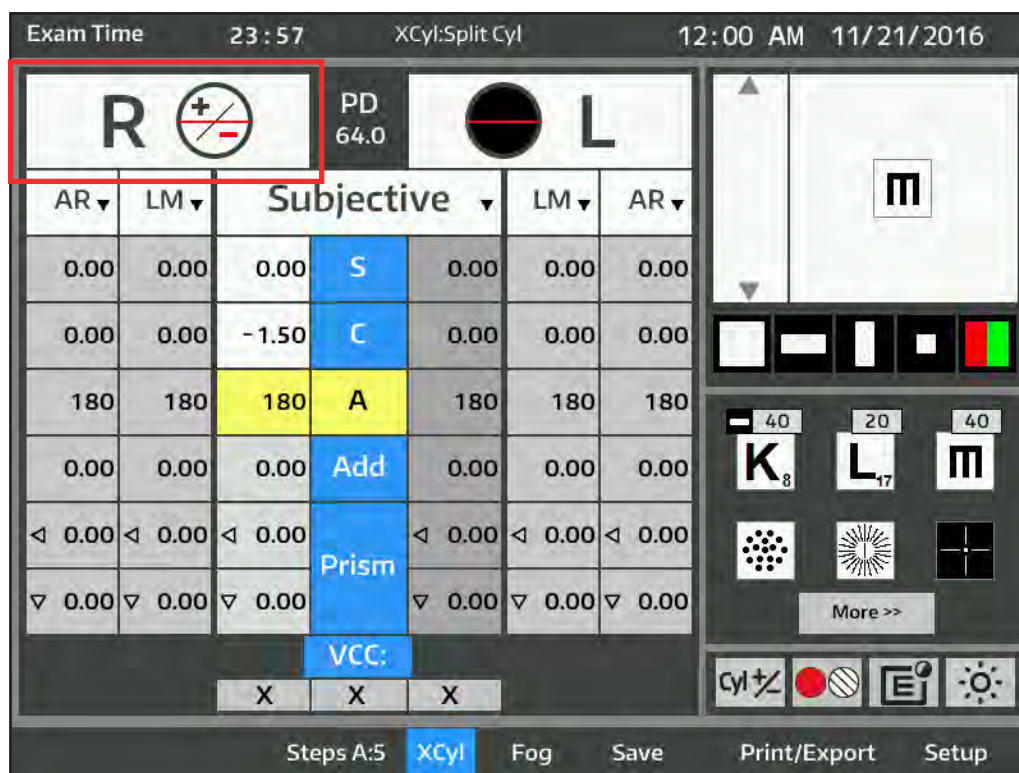

Figure IU-17 Cross Cylinder - Split Cyl Test Screen
1. Touch the screen icon Steps A:x at the bottom of the screen that indicates the degree of Axis change. Refer to Figure IU-17.